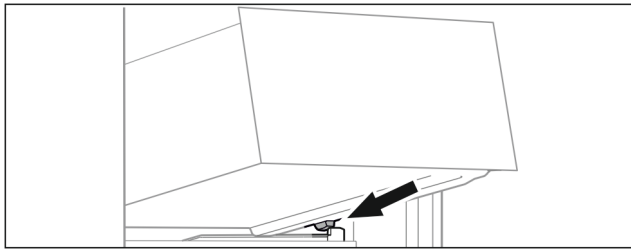

Fig. 71
- ▶ Place drawer at an angle behind the stoppers on the moulded rib. (see Fig. 71)